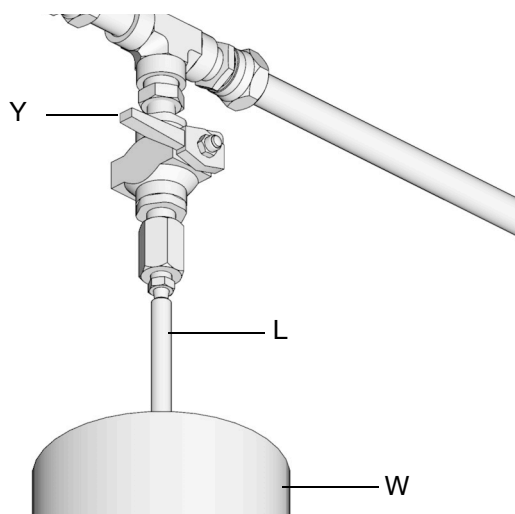

FIG. 19
1. To relieve pressure between the refill pump (F) and the auto-fill shut off valve (B), open the supply hose pressure relief valve (Y) (FIG. 19). The pressure releases and excess fluid drains out of the drain tube (L) and into the lubrication overflow container (W).